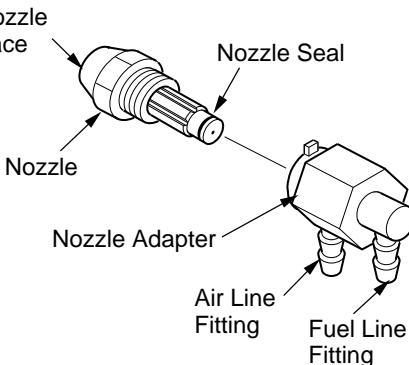

Figure 20 - Nozzle and Nozzle Adapter
6. Carefully remove nozzle from the nozzle adapter using 5/8" socket wrench (see Figure 20).
9. Replace nozzle into nozzle adapter until nozzle seats. Tighten 1/3 turn more using 5/8" socket wrench 4.5 to 5.1 N·m (40 to 45 in-lbs). See Figure 20.